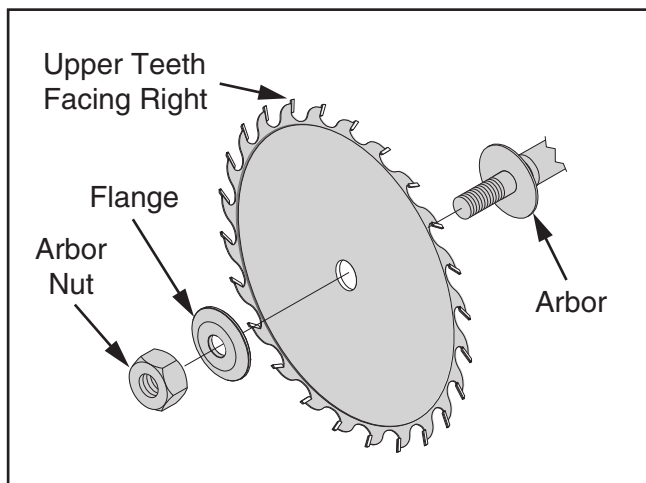

Figure 33. Main blade component assembly.
25. Slide main blade (not included) over arbor with teeth facing to the right, then install flange (see **Figure 33**).